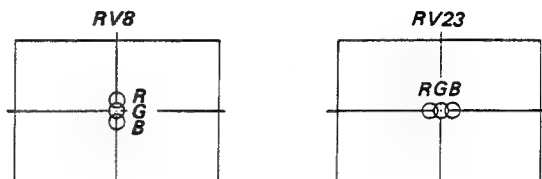

Fig. 1-11.
2. Adjust RV23 and RV8 on the DC board to coincide with R, G and B dots at the center of the screen as shown in Fig. 1-11.